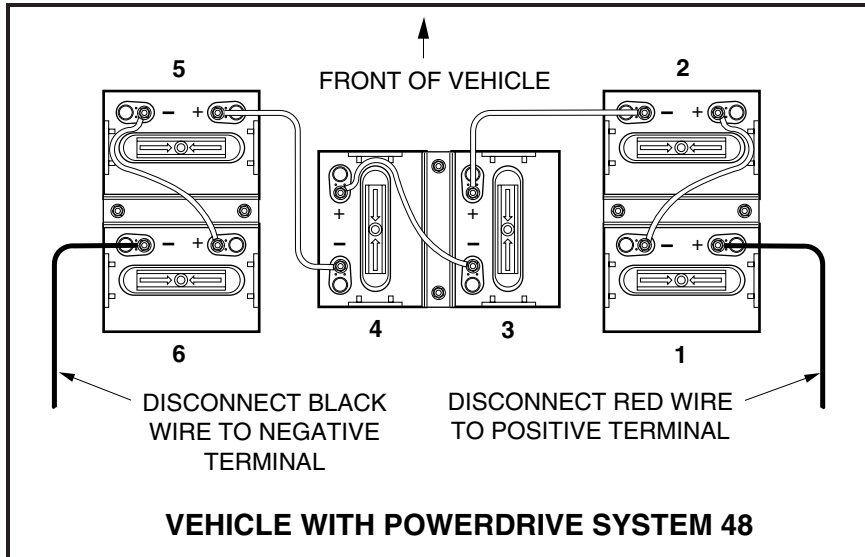

FIGURE 17-1
- TO AVOID UNINTENTIONAL STARTING OF THE VEHICLE, **DISCONNECT BATTERIES** AS SHOWN IN FIGURE 17-1, AND THEN **DISCHARGE THE CONTROLLER** AS FOLLOWS:
- DISCONNECT BATTERIES AS SHOWN, FIGURE 17-1, PAGE 17-2.